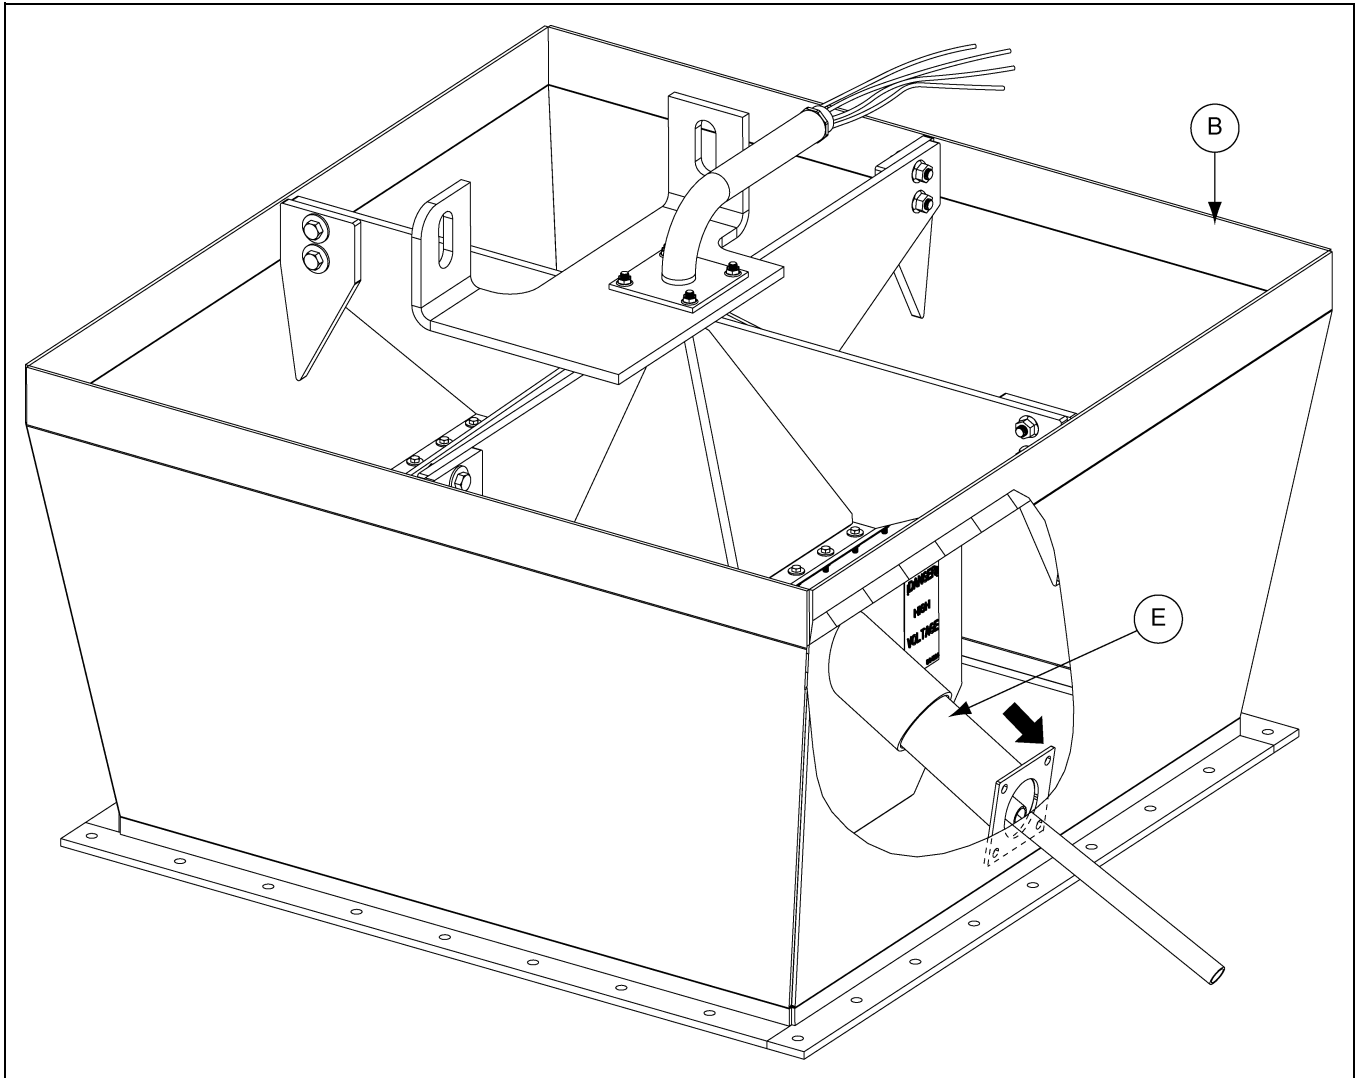

Figure 6E
8. Remove all adhesive tape, allowing the lower flex conduit tubes (E) to slide and rest against the walls of the center well (B). (See Figure 6E.)
9. Weld each lower flex conduit tubes (E) to the sides of the center well (B).